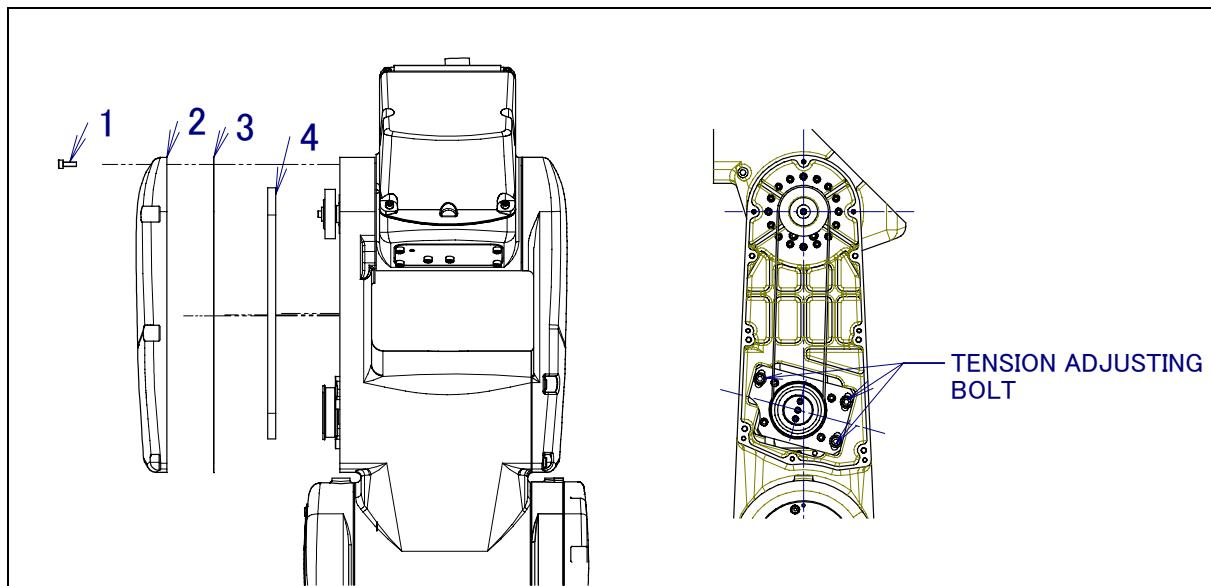

Fig. 4.15 Replacing J3 belt
- 2 Remove blot/plated bolt (1) and J2 arm cover (2). When packing is attached, remove packing (3), too.
- 3 Loosen tension adjusting bolt and lower tension and remove belt (4) referring to Fig.4.15.